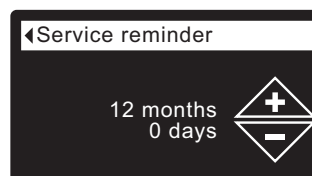

FIG. 97
7. Press the SELECT (O) button to display the Service reminder screen (See Figure 97).